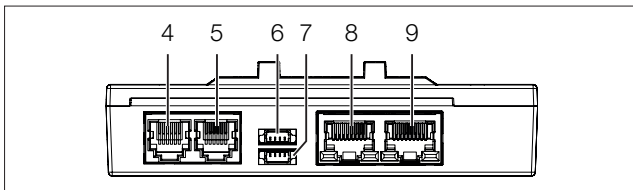

Fig. 12: Rear of the access control
- If necessary, connect the following connection accessories to the appropriate connection. (fig. 12, item 4 to 7).
- Use a CAN bus connection cable to connect the access control to a CAN bus interface on the Rittal embedded device or the neighbouring component on the CAN bus (fig. 12, item 8, 9).
- If necessary, connect another component (e.g. another sensor type) to the second, free CAN bus interface of the access control (fig. 12, item 8, 9).